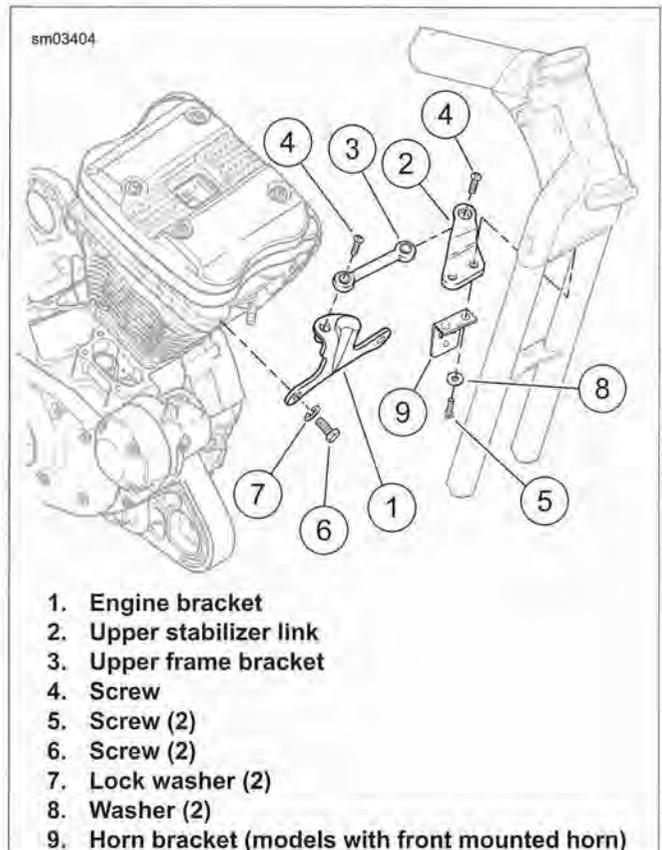

Figure 3-100. Upper Front Stabilizer Link Assembly (typical)
1. See Figure 3-100. Install upper front stabilizer link and frame bracket:
- a. Install upper frame bracket (3) with upper stabilizer link (2), horn bracket (9) (models with front mounted horn), screws (5) and washers (8). Tighten screws to 25-35 ft-lbs (33.9-47.5 Nm).
- b. Install screw (4) securing stabilizer link to engine bracket (1). Tighten screw to 25-35 ft-lbs (33.9-47.5 Nm).
- a. Throttle Position (TP) sensor connector [88].